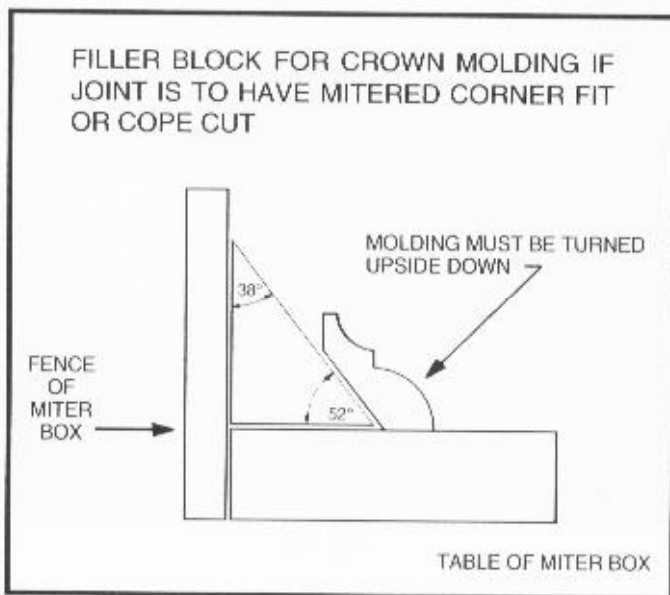

Fig. 50
2. When a large number of repetitive cuts of crown moulding are required we suggest the use of filler blocks, as shown in Fig. 50 through Fig. 53. The majority of crown mouldings have contact surfaces at 52 and 38 degrees to the rear surface of the moulding and these angles must be utilized when jointing the face of the filler block. For crown mouldings with different angles, appropriate filler blocks can be produced.
3. Fig. 50 and Fig. 51, illustrate the filler block fastened to the miter box fence with the face of the filler block extending outward from the top of the fence and down to the surface of the table. When the filler block is positioned in this manner, the crown moulding must be positioned on the table in the upside down position. This means that the surface of moulding that contacts the ceiling is against the table.